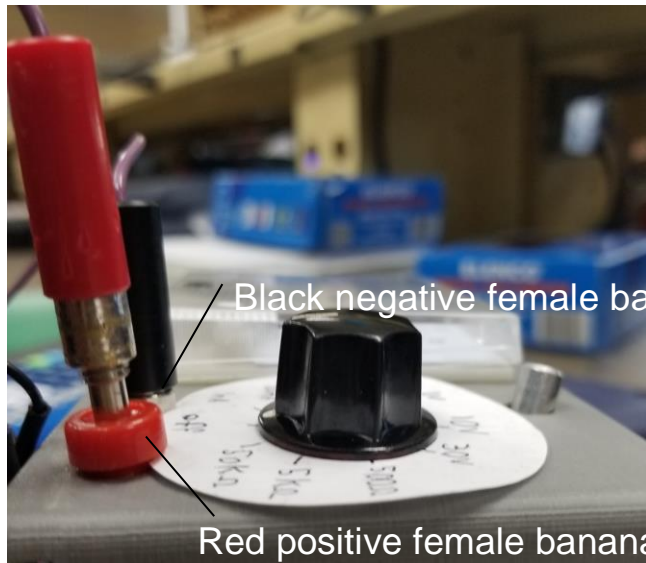

Figure 5-2
2. Next, insert the red positive lead to the red positive female banana port and the black negative lead to the black negative female banana port as shown in Figure 5-2.